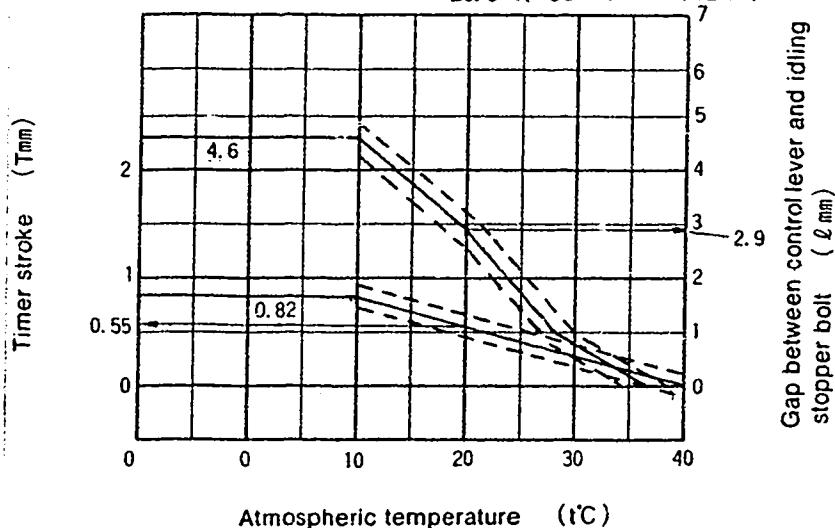

Fig. 2
1. Calculate the timer stroke from Fig. 2 according to the atmospheric temperature at the time of adjustment.
Formula for calculating Fig. 2
1. Calculate the block gauge dimension  $l \pm 0.05$  mm from Fig. 2 according to the atmospheric temperature at the time of adjustment.
2. Insert the block gauge (thickness gauge) selected in Step (1) above between the bracket and the idling stopper bolt.